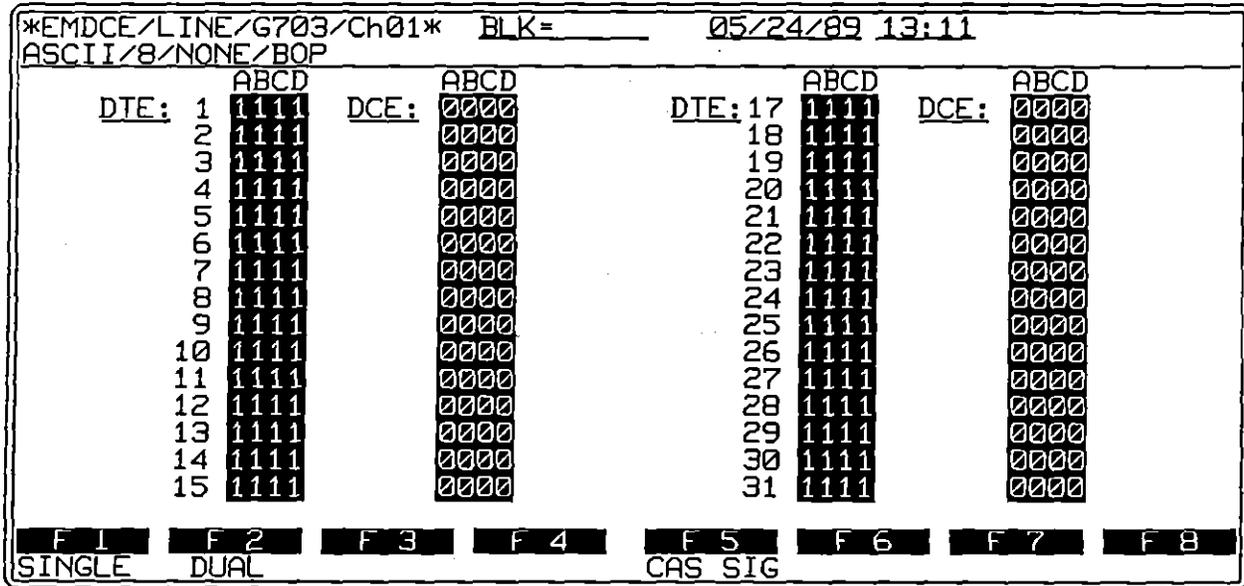

Figure 53-18 Selecting CAS SIG displays the ABCD bits for each data channel.
1. **CAS**. CAS (Channel Associated Signalling), the default selection, is a bit-oriented signalling technique which uses a 16-frame multiframe to provide four bits for each data channel, transmitted on channel 16 (see Figure 53-22). Channel 16 may be observed "as is" in Run mode, but a better view of the channel activity is obtained by pressing the softkey **CAS SIG** after selecting **DATA**—see Figure 53-18. This figure shows the ABCD bits from all channels presented in the form of a matrix. Figure 53-12 illustrates the Interface Control screen selections when Signalling Type: **CAS** is selected.